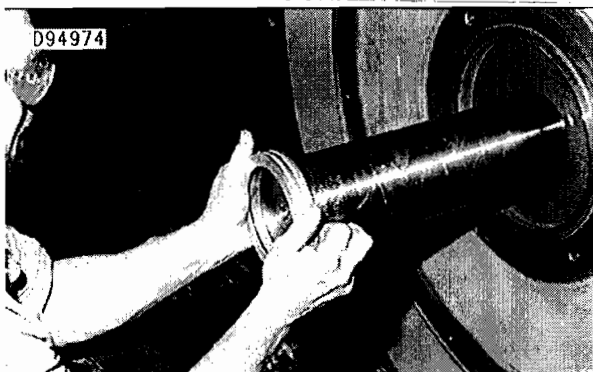

Figure 13
1. Place inner seal on shaft, if it is not already there. A coat of STP or similar substance may be applied to the shaft before moving the seal into place. See figure 13.